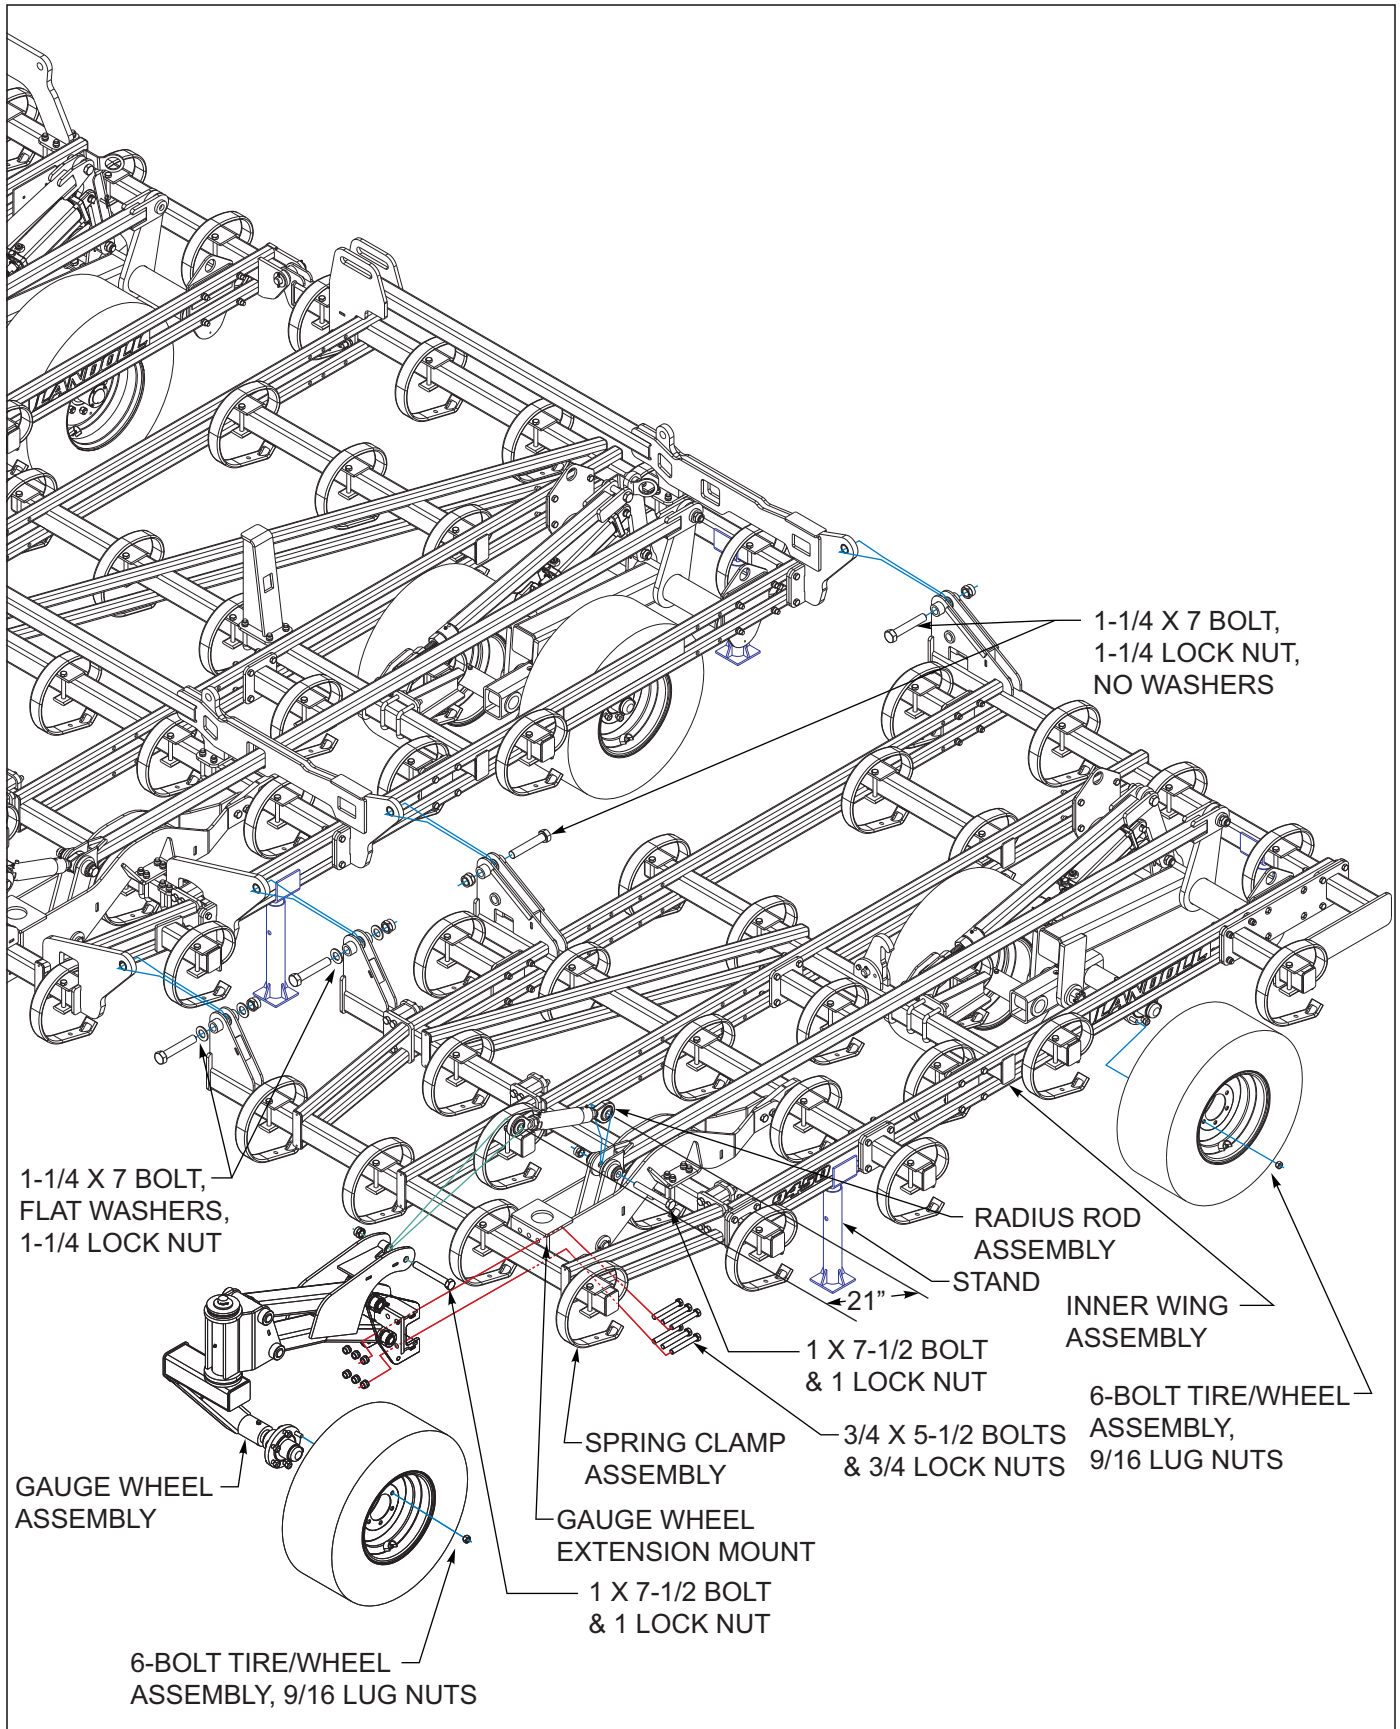

Figure 3-6: Outer Wing Assembly
1. Install outer wing frames to inner wing frames using 1-1/4-7 x 7 hex head cap screws, and hex lock nuts **See Figure 3-6 Note the direction of bolts as shown in Figure 3-6.** Use flat washers on the front mount but not the middle or rear hinge.
1. Remove the 1 x 7-1/2 bolt and 1 lock nut from the gauge wheel extension mount assembly **See Figure 3-6.**